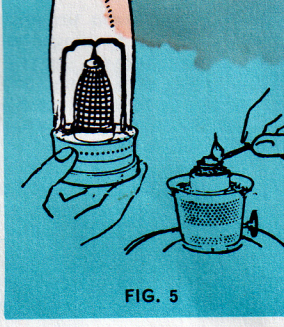

FIG. 5
2. Turn wick up about *one-eighth* inch above the flange of the outer wick tube (153)—you should still see five rows of holes in the flame spreader (106). Light wick (Fig. 5) and when flame has travelled completely round it, carefully put gallery, mantle and chimney into place on the burner and lock in position by turning to the right. CAUTION! Don't allow gallery assembly to *drop* into position as this can damage the mantle.